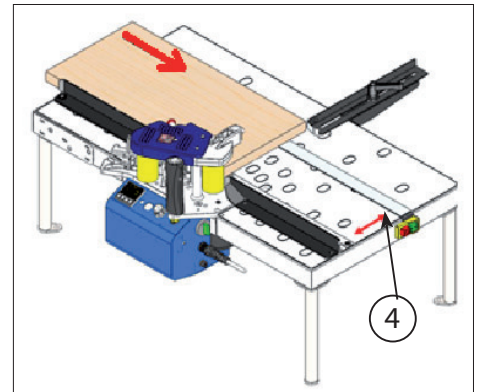

Fig 6
- Set the appropriate width for the work piece, and follow the direction shown on (Fig 6)